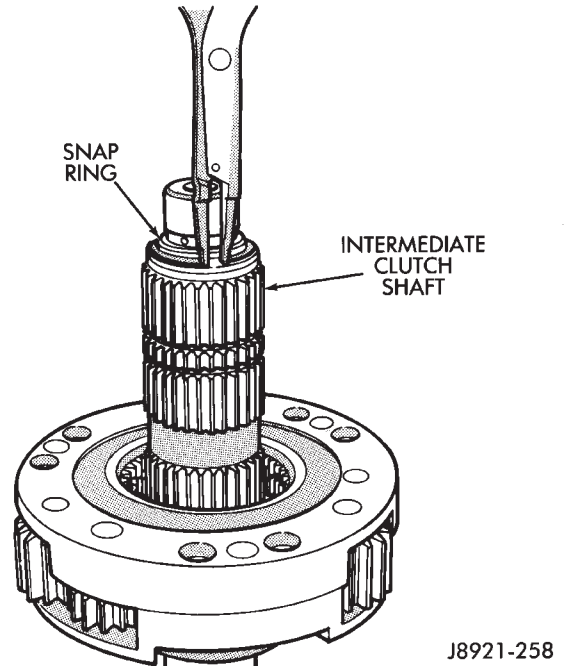

Fig. 61 Installing Clutch Shaft Snap Ring
(38) Install clutch shaft snap ring (Fig. 61).